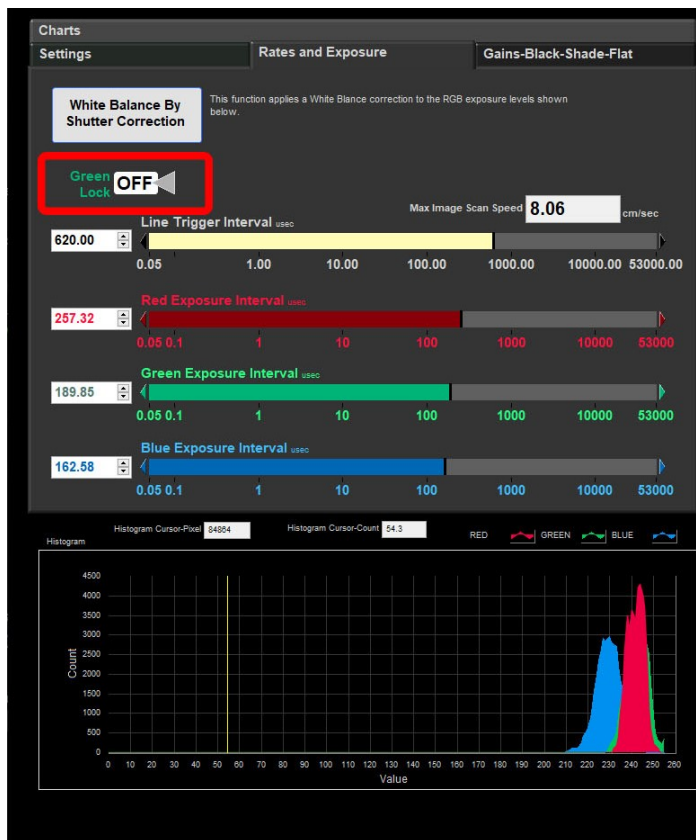

Figure 40: Green Lock control highlighted in red and set to off.
3. On the **Green Lock** control select OFF (Figure 40). The other exposures are now adjustable.